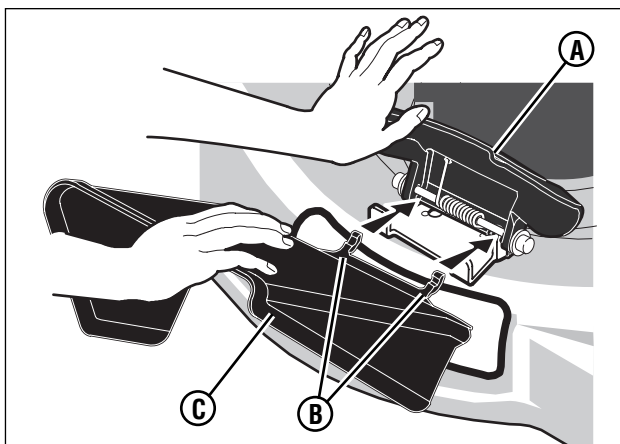

Figure 8: Installing the side discharge deflector
1. Raise the mulcher cover (**A**, **Figure 8**).